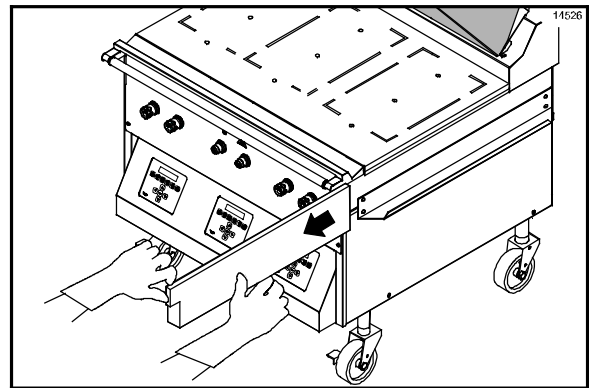

Figure 68
- 42. Remove and empty the grease pans. (See Figure 68.)